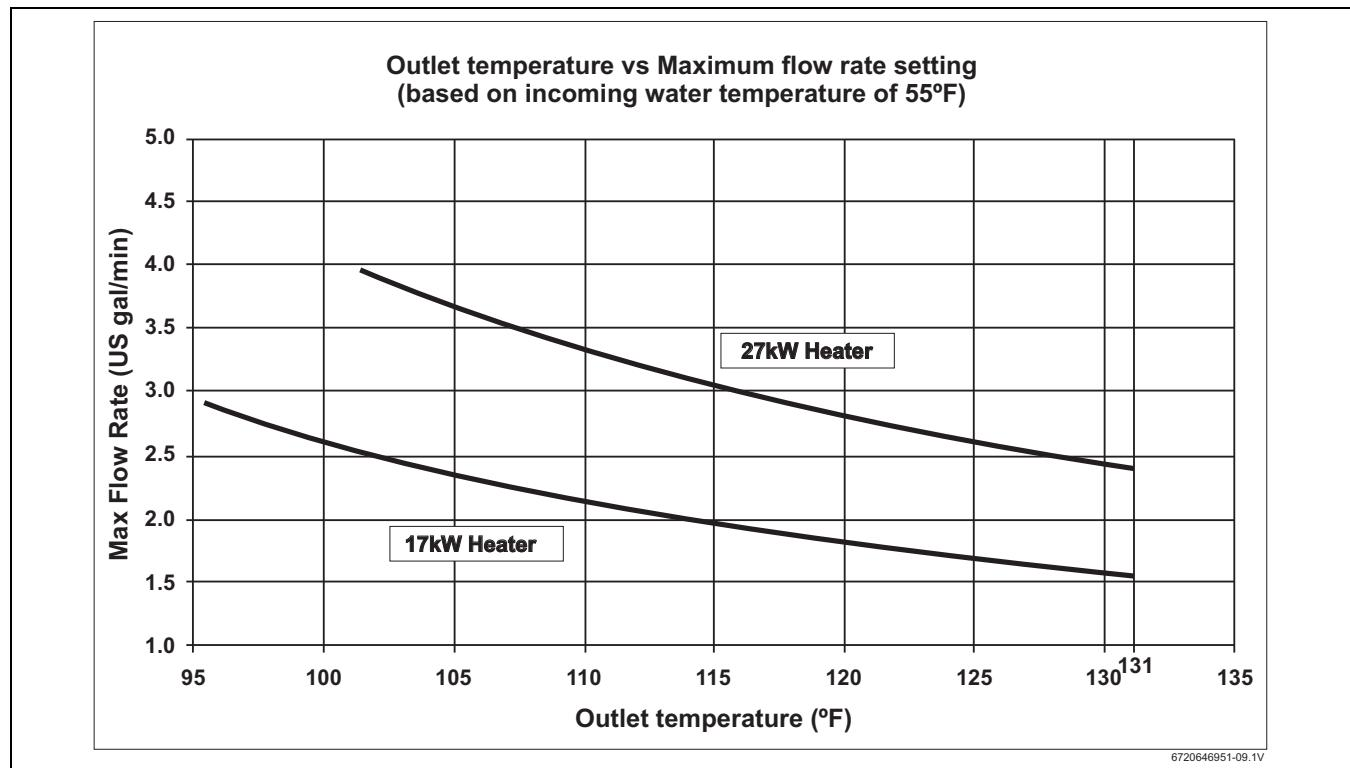

Fig. 11
- ▶ Adjust the outlet shut-off valve until the water flow rate from the hot faucet corresponds to the value given in Fig. 11 below.
These figures are based on an inlet water temperature of 55 °F and a supply voltage of 240 volts. If the inlet water temperature is lower than 55 °F, or if the supply voltage is less than 240 volts, then the outlet temperature will be lower than what is shown in Fig. 11. If a higher outlet water temperature is desired, then reduce the flow rate and/or supply the unit with 240 volts.
The inlet water temperature is too cold	Verify the heater is sized appropriately for it's geographic location. Turn temperature knob located on the bottom of the water all the way clockwise for maximum temperature setting. Ensure flow rates are within the heater's specifications. Refer to Fig. 11 on page 18 of the manual. Use of an isolation valve on the hot water outlet to control flow rate is recommended.
Temperature dial is turned too low	Turn the temperature dial located on the bottom of the water heater clockwise for hotter temperatures. Refer to Fig. 11 for outlet temperature vs. flow rate variance.
Water flow is too high	Adjust water flow to stay within the water heater's specifications. See Fig. 11 of this manual.
Outlet shut-off valves are set too low	Adjust installer supplied outlet valve as described below: <ul style="list-style-type: none"> <li>• Completely open both installer supplied inlet and outlet shut-off valves at the heater. (if none installed, install before proceeding).</li> <li>• Completely open hot water on the highest flowing hot water fixture served by the heater (i.e. bathtub).</li> <li>• Slowly close the outlet shut-off valve, slowing the water flow rate until the temperature at the hot water faucet corresponds to the values given on Fig. 11 of the manual, or desired water temperature is reached.</li> </ul>
Changing flow rate. Water supply connected to the outlet of the unit.	Major changes in flow rate can adversely affect the output water temperature of the heater. Increases from one major fixture running to multiple fixtures running at one time can cause the temperature to fluctuate. Stay within the heater's specifications. See Fig. 11.